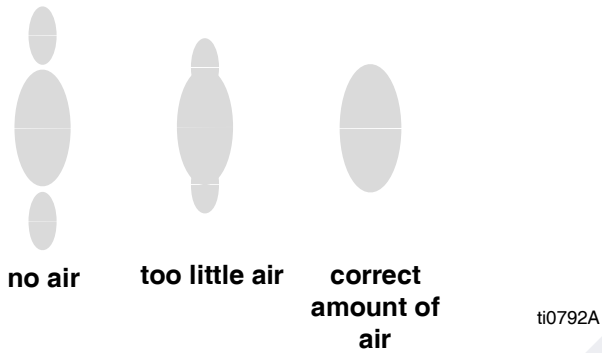

FIG. 7. Spray Pattern Problems
- See FIG. 7. Set atomizing air pressure at about 5 psi (0.35 bar, 35 kPa) when triggered. Check spray pattern, then slowly increase air pressure until tails are completely atomized and pulled into spray pattern. Do not exceed 100 psi (0.7 MPa, 7 bar) air pressure to gun.
3. See FIG. 7. For narrower pattern, turn pattern adjustment valve knob (AA) counterclockwise (out). If pattern is still not narrow enough, increase air pressure to gun slightly or use different size tip.